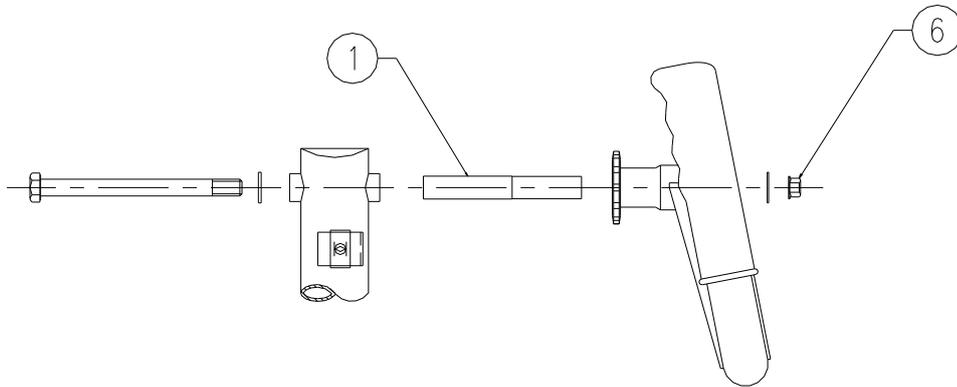

Figure 6a
8. Assemble the control column using the items per Figure 6a and 6b. Ensure that the minor diameter of item 1 is inserted into the control wheel housing. Apply a general-purpose grease or an anti seize compound such as Loctite Silver Grade or Bostik Never-Seez to the shafts prior to installation into the control column bushes. Torque the nuts to 160 – 190 in.lbs. Parts not ballooned are existing items that can be re-used.